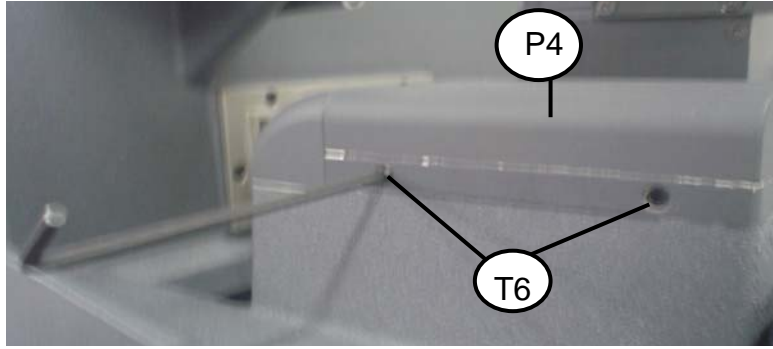

Fig.25
- 1) **Remove the cover:** Loosen the setscrews (T6) until they extrude and remove the cover (P4) from the dovetail (Fig.25).